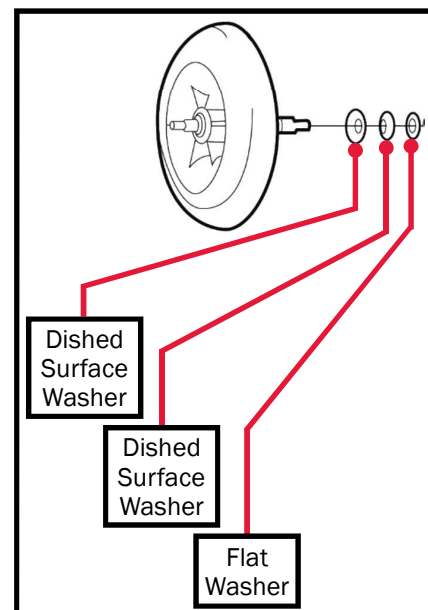

Figure 88
NOTE: Be sure to observe the placement of the three washers of the bearing kit. To ensure proper tension, the same order and direction of the dished surfaces of the washers must be followed when reassembling. See Figure 88.
- Reference Figure 88 for exact placement of the three washers that slide over the threaded end of the combustion air blower's shaft prior to installation. Failure to follow the correct order and direction of the dished surfaces on the washers will result in a restricted rotation of the combustion air blower.